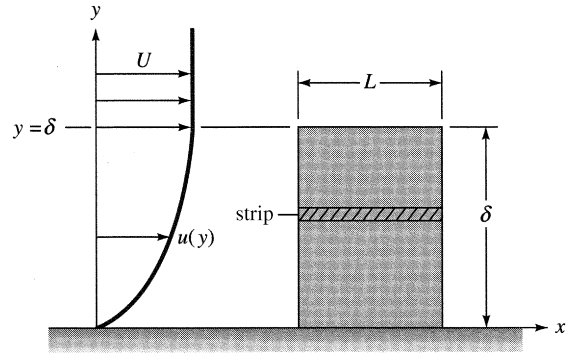

Fig. P7.32
**7.32** A flat plate of length  $L$  and height  $\delta$  is placed at a wall and is parallel to an approaching boundary layer, as in Fig. P7.32. Assume that the flow over the plate is fully turbulent and that the approaching flow is a one-seventh-power law